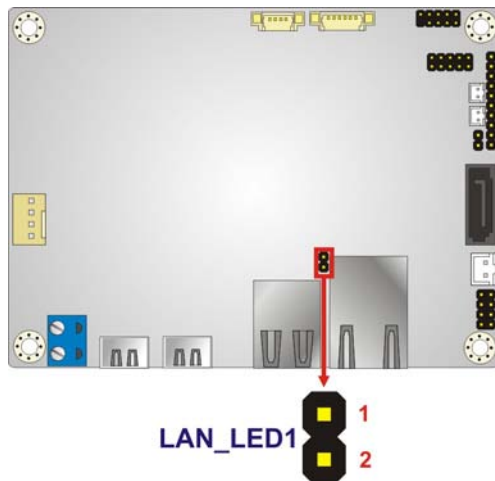

Figure 3-14: LAN LED Connector Locations
- CN Location: See **Figure 3-14**